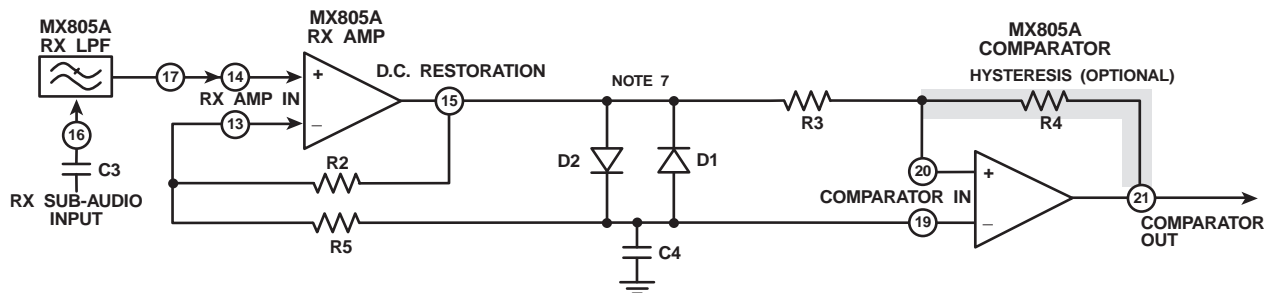
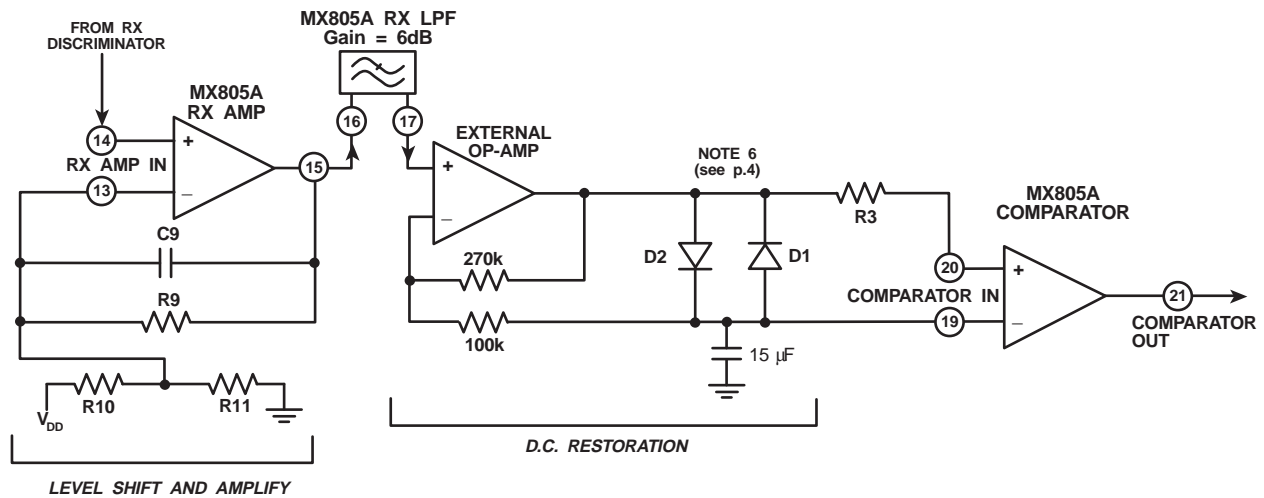

Figure 3: MX805A Input Components
Figure 4: MX805A Input Components using and External Op-Amp
3. Figure 3 and Figure 4 illustrate alternative input component configurations.
Figure 3 shows an input configuration that is generally for use for CTCSS signal and NRZ data reception.
The output resistance (open loop) of the on-chip Rx Amp is  $= 6\text{k}\Omega$ . In the configuration shown in Figure 3, the (Rx Amp) RC time constant is therefore  $90\text{ms}$ . If this period is too long for some systems, i.e. those using half duplex, short data burst, and external amplifier should be considered in place of the on-chip Rx Amp.
For DC coupling the MX805A to the receiver's discriminator output when using burst mode NRZ communication, it is recommended that an additional, external Op-Amp is employed as configured in Figure 4. This configuration will quickly compensate for sudden shift of DC input bas.